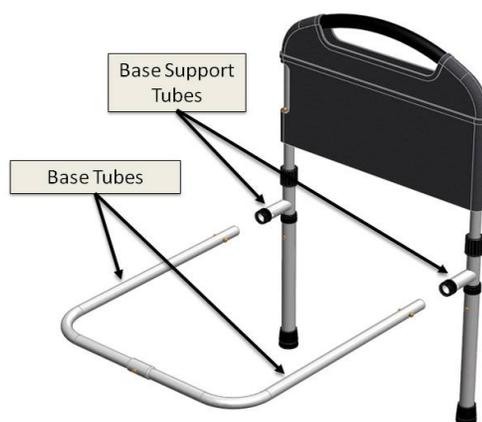

FIGURE 5
5. Attach Base Tubes into the Base Support Tubes as shown in Figure 5. Make sure the Spring Pins engage the hole in the Base Support Tubes.